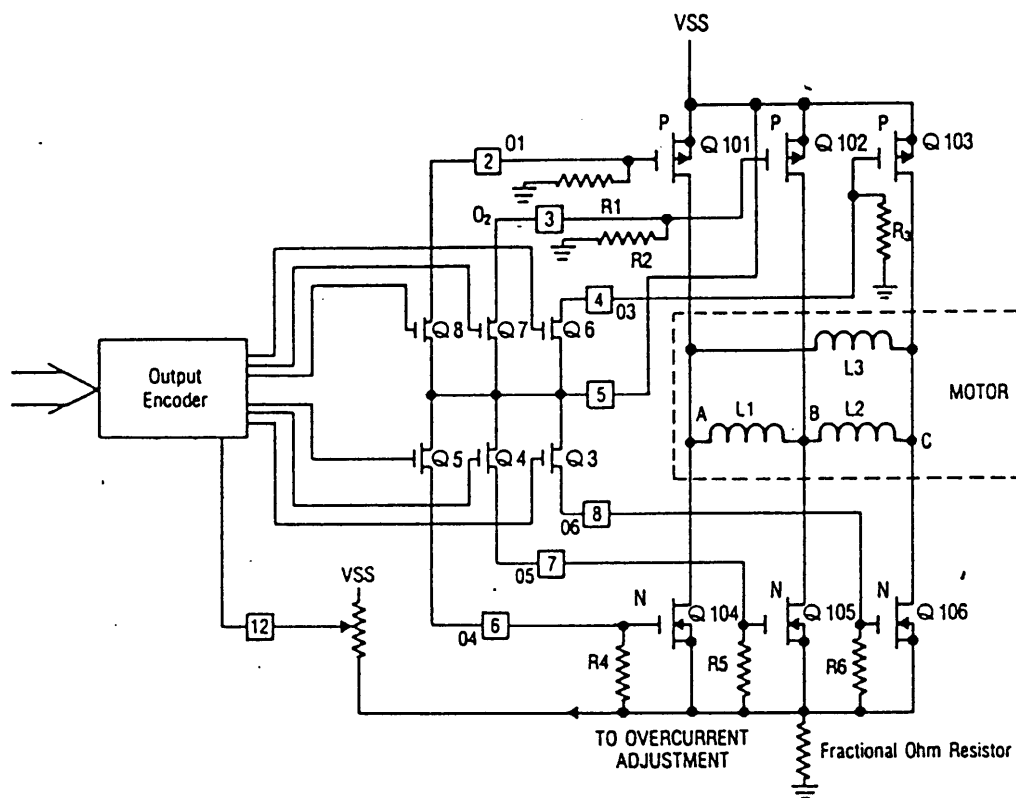

FIGURE 1
For the LS7261 and LS7262, a high level applied to this input unconditionally turns off outputs 1, 2 and 3 and turns on outputs 4, 5 and 6. (See Figure 2). For the LS7260, the high level at this input turns ON outputs 1, 2, and 3 and output 4, 5 and 6. (See Figure 1). In both cases, transistors Q101
The oscillator is used for motor speed control as explained under VTRIP. Both upper and lower motor drive transistors are pulse width modulated (see Fig. 1 or Fig. 2) during speed control.
For the LS7260, (See Fig. 1) the external drivers also turn on in pairs. Internal operation is somewhat different than the LS7261 or LS7262. For example, external transistors Q101 and Q105 will turn on when internal transistor Q8 turns off and Q4 turns on enabling full power supply drive on Q101 and Q105. Since Pin 5 is tied to VSS, the gate of P-channel Driver Q101 is brought to ground potential by R1 and the Gate of N-Channel driver Q105 is brought to VSS potential by Q4. Other external output pairs turn on similarly and the commutation sequence is identical to that of the
LS7261/LS7262 (Table III). Table II indicates the minimum value of R1 (=R2=R3=R4=R5=R6) needed as a function of output drive voltage for Figure 1.
*See fig. 1 and 2